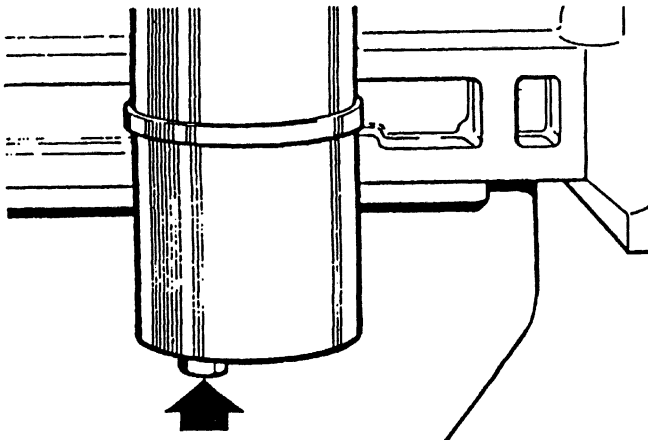

Fig 7 Main fuel filter sediment trap
14. Wipe the base of the sediment trap (Fig 7) to remove any dirt and then unscrew the drain plug. After allowing any moisture to drain away, replace the plug.